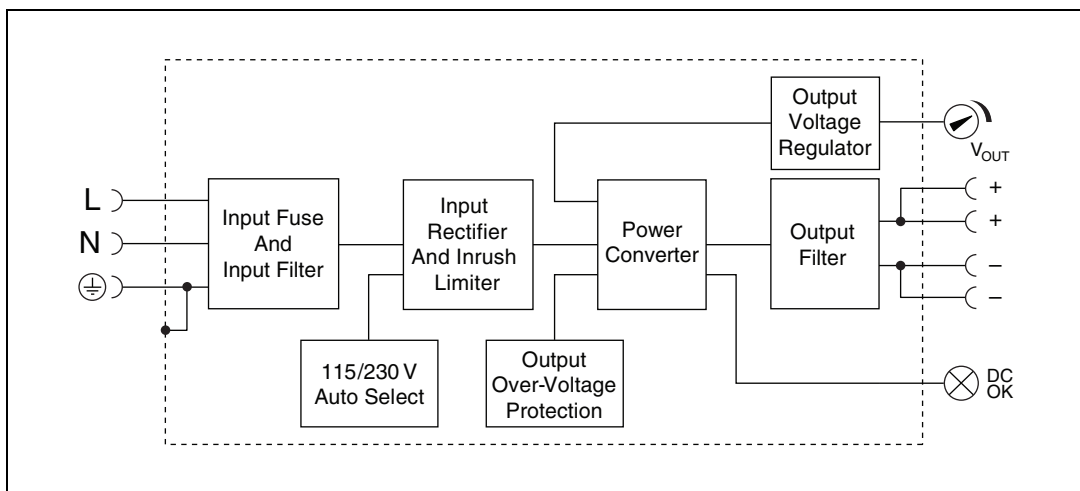
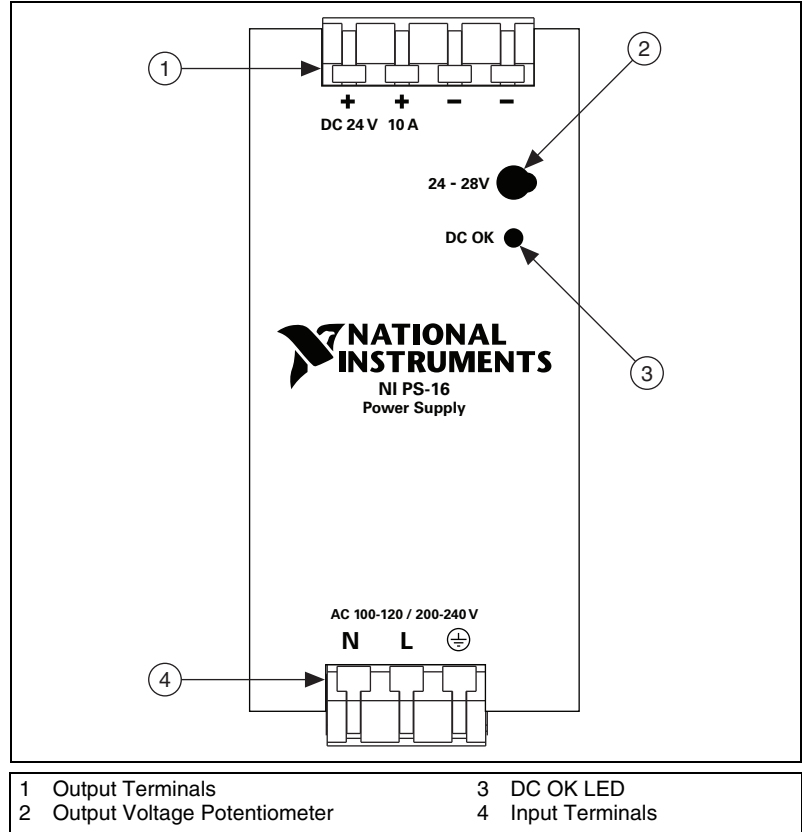

Figure 1-1. Functional Diagram for the NI PS-16 Power Supply
Figure 1-2. Front View of the NI PS-16 Power Supply
Figures 1-1 and 1-2 show the functional description and front panel features of the NI PS-16 power supply.
Figure 1-1 provides the functional diagram for the NI PS-16.
Figure 1-2 provides the front panel features of the NI PS-16.
The NI PS-16 has a total of four output terminals, providing two positive (+) output terminals and two negative (–) output terminals. Both positive terminals are wired together internally, and both negative terminals are wired together internally, as shown in Figure 1-1. The output terminals provide 24 V_{DC} with 10 A of current.
Output voltage from the NI PS-16 is set by the output voltage potentiometer, shown in Figure 1-2. The factory setting output voltage is 24.1 V \pm 0.2% (at full load when the power supply is cold), and the potentiometer allows the output voltage to be adjusted from 24–28 V on any unit. The output voltage may be adjusted above 28 V by the potentiometer, but voltages beyond 28 V are *not* guaranteed.
This green LED indicates the status of available DC power through the output terminals. If the LED is lit, DC output of greater than 21 V is available for use through the output terminals. If the LED is not lit, DC is not currently available. The DC OK LED is wired internally to the power conversion circuitry prior to the output filtering stage, as shown in Figure 1-1.
The NI PS-16 power supply derives power through the input terminals on the front panel, shown in Figure 1-2. There are three terminals corresponding to the Neutral input, the Line (or hot) input, and the Protective Earth (PE) input. The NI PS-16 rectifies both single-phase and two-phase AC input. The Neutral input terminal provides a MAINS return path for the input circuitry. The Line input is the primary power input for the supply. The PE input corresponds to an earth ground. As shown in Figure 1-1, the power supply case itself is grounded to the PE input.